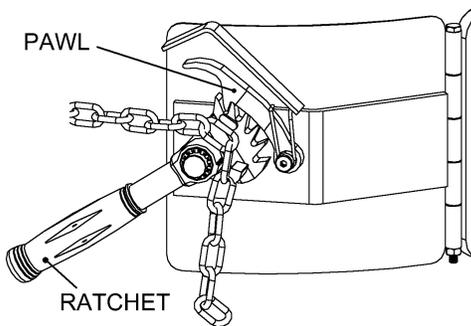

Figure 3.2
- a. Standard Saddle Assembly: Drape the E14 strap across the front of the drum and engage a link into the slot in the ratchet (see Figure 3.2). Turn the ratchet clockwise to tighten strap. If ratchet turns until the pawl is beyond the last ratchet tooth, turn the ratchet back and slide the next link into the ratchet slot and try tightening again. The strap must be held tightly against the drum with the pawl engaged securely in the ratchet teeth.